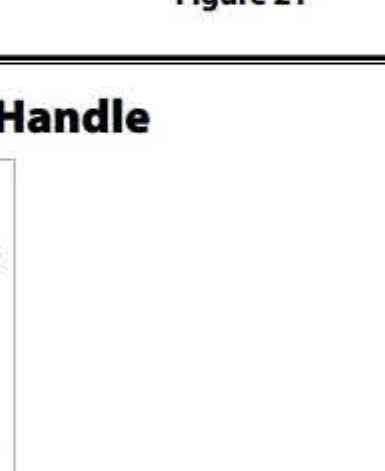

Figure 20
- Place a black rubber washer in one end of the handshower hose. Screw this end of the hose to the handshower outlet port. (See Figure 20.)
- Place the screen washer in the other end of the hose. (See Figure 20.)
- Screw this end of the hose to the handshower. (See Figure 20.)